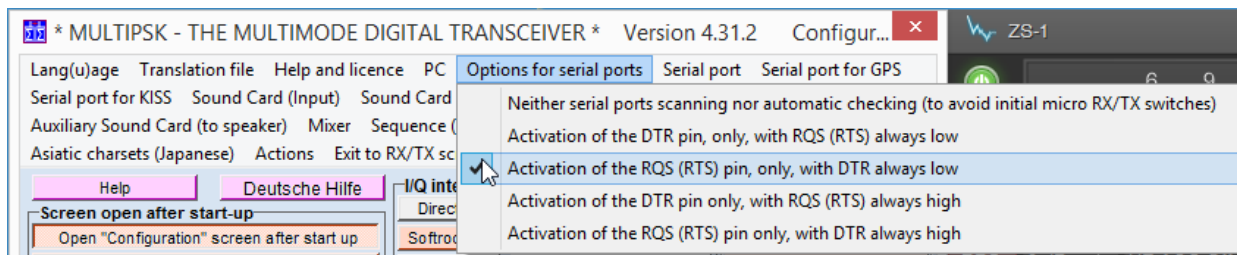

Figure 23: Setting the Options for the serial port.
- Options for serial ports -> Activation of the RQS ... (see Figure 23)